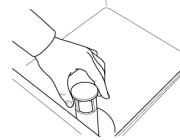

Fig.21
- 2- Open the door and remove the water flow device and close the door. (Fig.21)